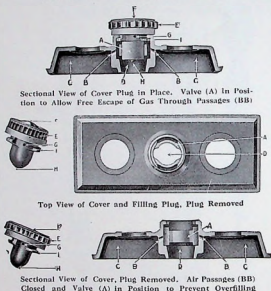

Fig. 11
From the illustrations (Fig. 11) of the vent and filling plug, it will be seen that they provide both a vented stopper (vents F, G, H) and an automatic device for the preventing of overfilling and flooding. In a simple and effective manner, the amount of water that can be put into the cells is limited to the exact amount needed to replace that lost by evaporation. This is accomplished by means of the hard rubber valve (A) within the battery cover and with which the tip of the filling plug (E) engages, as shown in the illustrations. The action of removing the plug (E) turns this valve (A), closing the air passage (BB), and forming an air tight chamber (C) in the top of the cell. When water is poured in, it cannot rise in this air space (C) so as to completely fill the cell. As soon as the proper level is reached, the water rises in the filling tube (D) and gives a positive indication that sufficient water has been added. Should, however, the filling be continued, the excess will be pure water only, not acid. On replacing the plug (E), the valve (A) is automatically turned, opening the air passages (BB), leaving the air chamber (C) available for the expansion of the solution, which occurs when the battery is working.